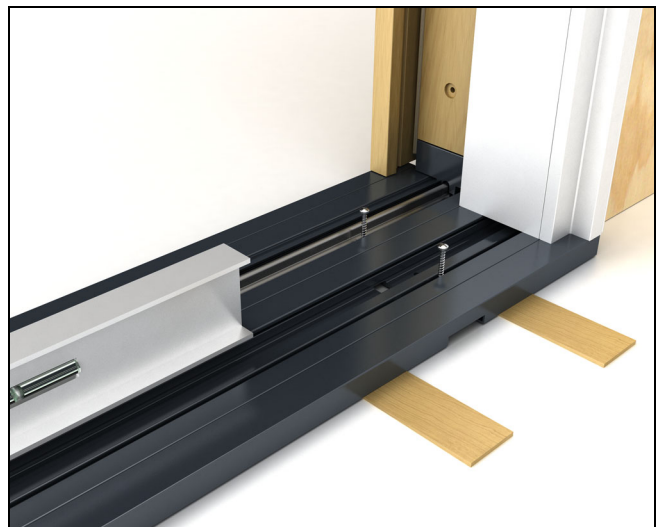

Figure 118
2. Place the frame into the opening and position. Begin to install anchor screws to secure the sill. See figure 118. After installing a few anchor screws, begin the sill leveling process. **A laser level works well for this application.** *NOTE: If sill has to be shimmed, the distance between shims should be 12" on center maximum.*